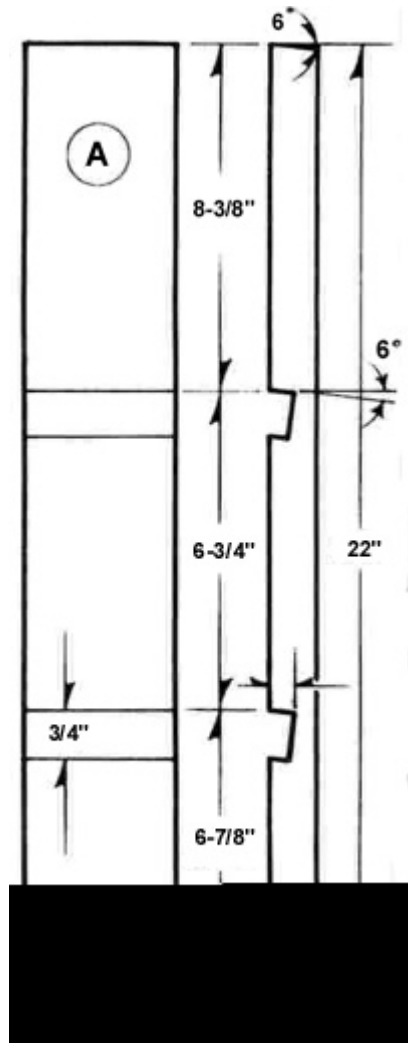
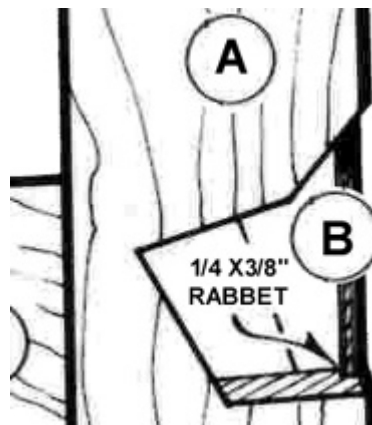

Figure 1: Side Pieces (A)
Figure 2: Side Pieces
1. Cut the two side pine pieces (A) according to the specified dimensions.
2. Use the dado-head to cut the shelf grooves and ends at a 6-degree angle on both side pieces (A) (see **Figure 1**).
3. Choose the wood from which you would like to cut the back pieces (B): scrap wall paneling or 1/4" plywood are two possibilities.
4. Measure the actual thickness of the wood for the back pieces (B).
5. Make a rabbet the thickness of the back pieces x 3/8" along the back edges of the side pieces (A) (see **Figure 2**) to accept the back pieces (B).